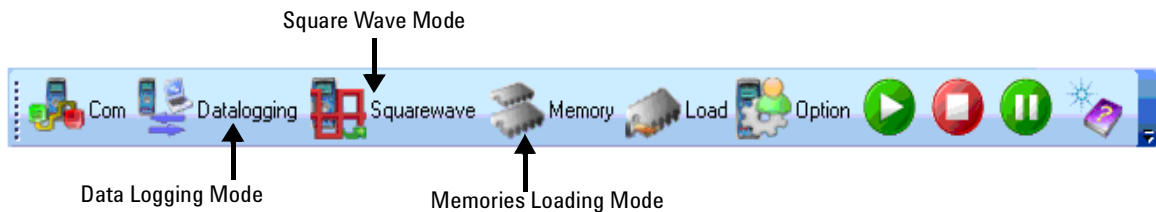

Figure B-1 Software modes
- ✓ There are three meter operation modes available, as shown in figure B-1.